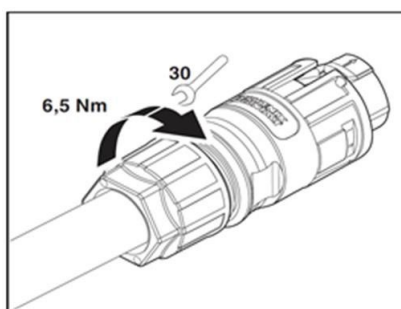

Fig. 18: Tightening the cable fitting
- Tighten the cable fitting with an open-end spanner  $\times W_{30}$   $\uparrow$  6.5 Nm (Interconnection Fig. 18).